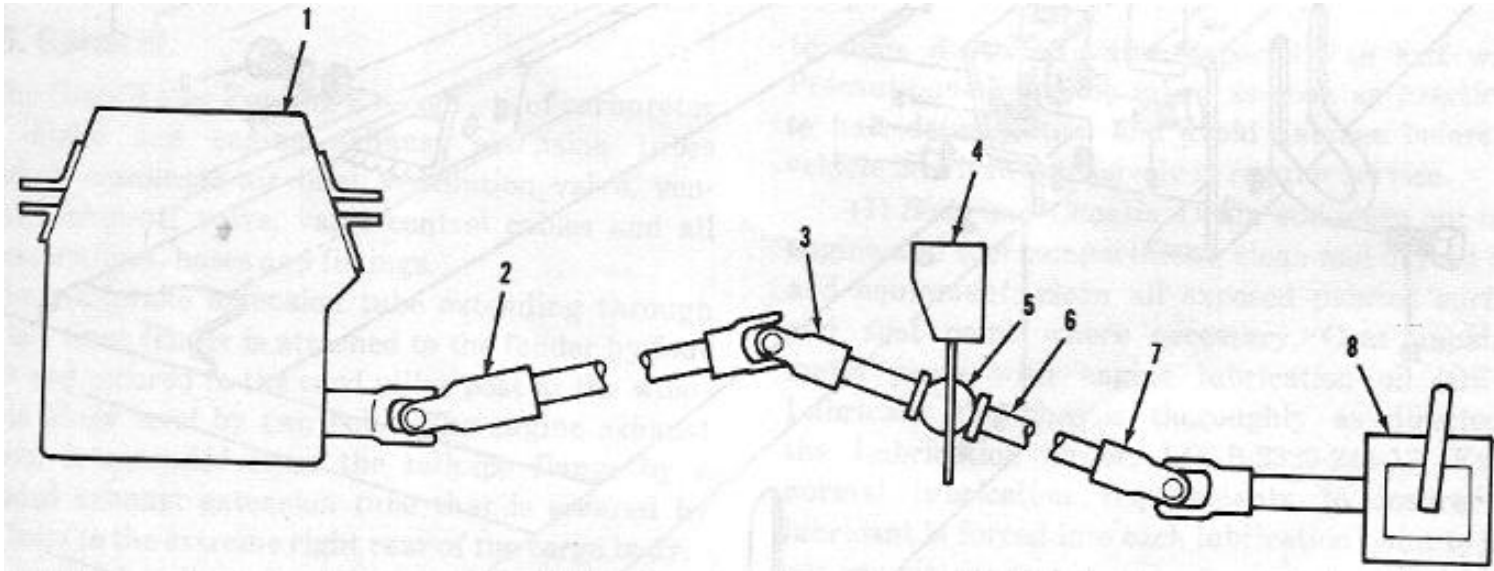

Figure 3-1 Winch driveshafts and joints.
- a. Driveshaft and Universal Joints. (Fig 3-1)
- (1) Remove cotter pin from shearpin.
- (2) Remove shearpin from winch driveshaft and winch input shaft.
- (3) Loosen setscrew which secures driveshaft to winch input shaft and slide universal joint yoke slip joint rearward on driveshaft and disengage driveshaft from winch input shaft.
(4) Remove nut, lock washer and bolt which secures driveshaft to power take-off output shaft.
(5) Slide driveshaft forward and disengage from power take-off output shaft.
a. Driveshaft and Universal Joints. (Fig 3-1)
- (1) Slide driveshaft on power take-off output shaft. Install bolts, lock washer and nut which secures driveshaft to power take-off output shaft. Tighten securely.
- (2) Position driveshaft to winch input shaft and slide slip joint yoke forward.
- (3) Line up holes and install shearpin through universal joint yoke and winch input shaft.
- (4) Install cotter pin in shearpin.